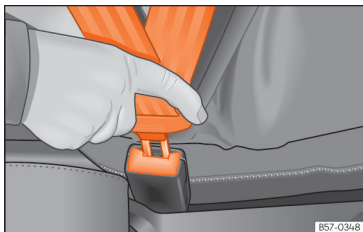

Fig. 26 Insert the latch plate of the seat belt into the buckle.
- Insert the buckle plate in the buckle of the correct seat »» Fig. 26.